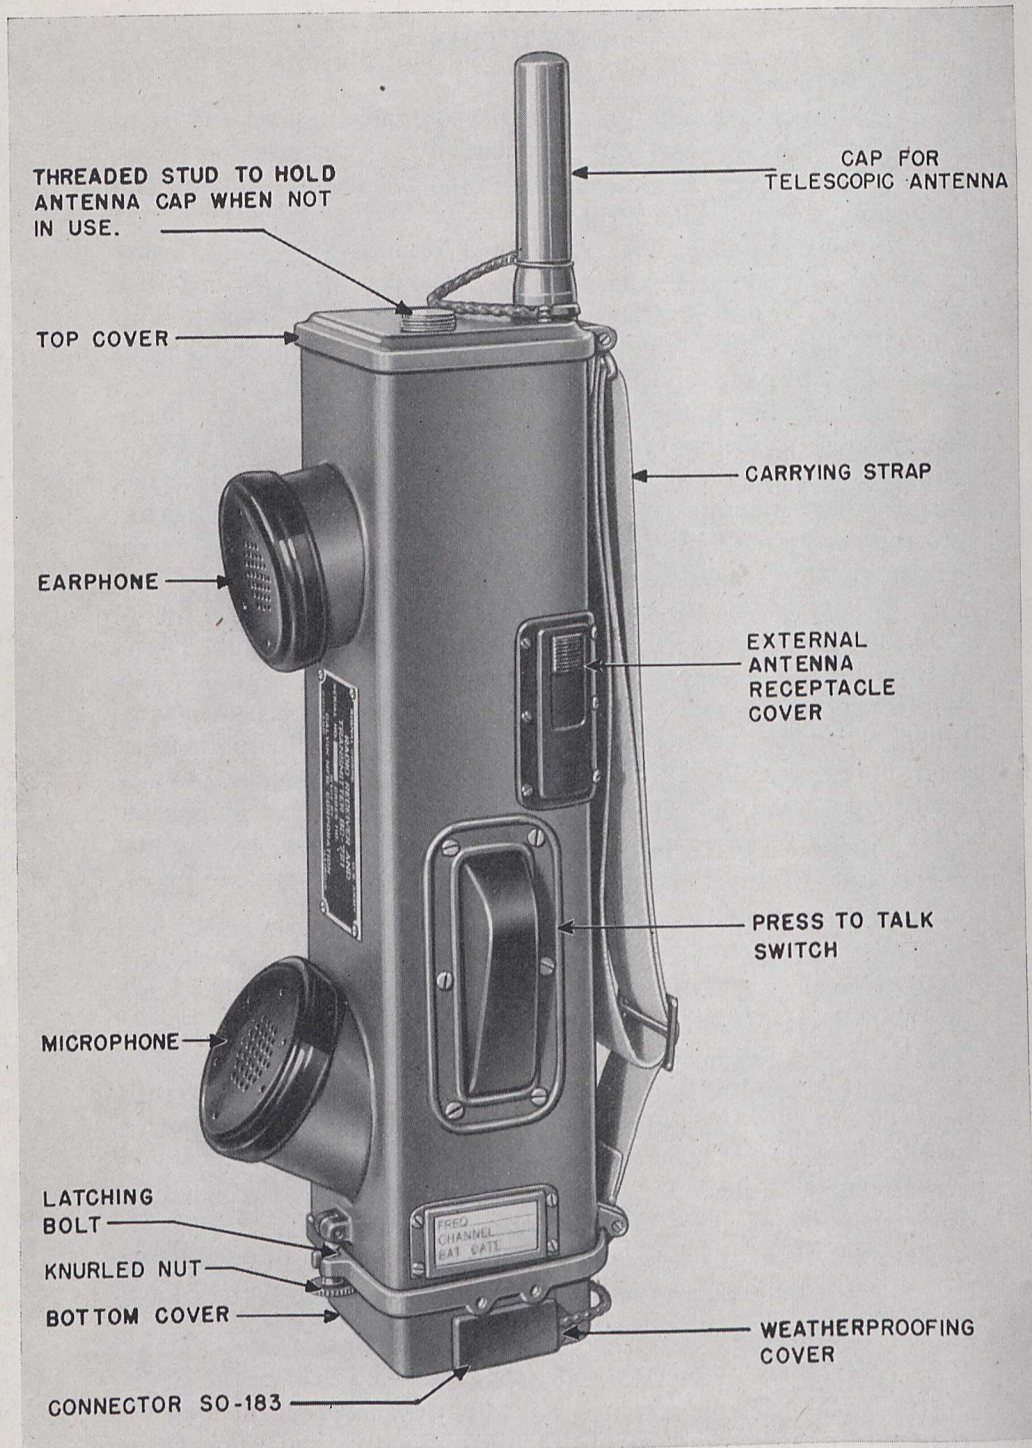
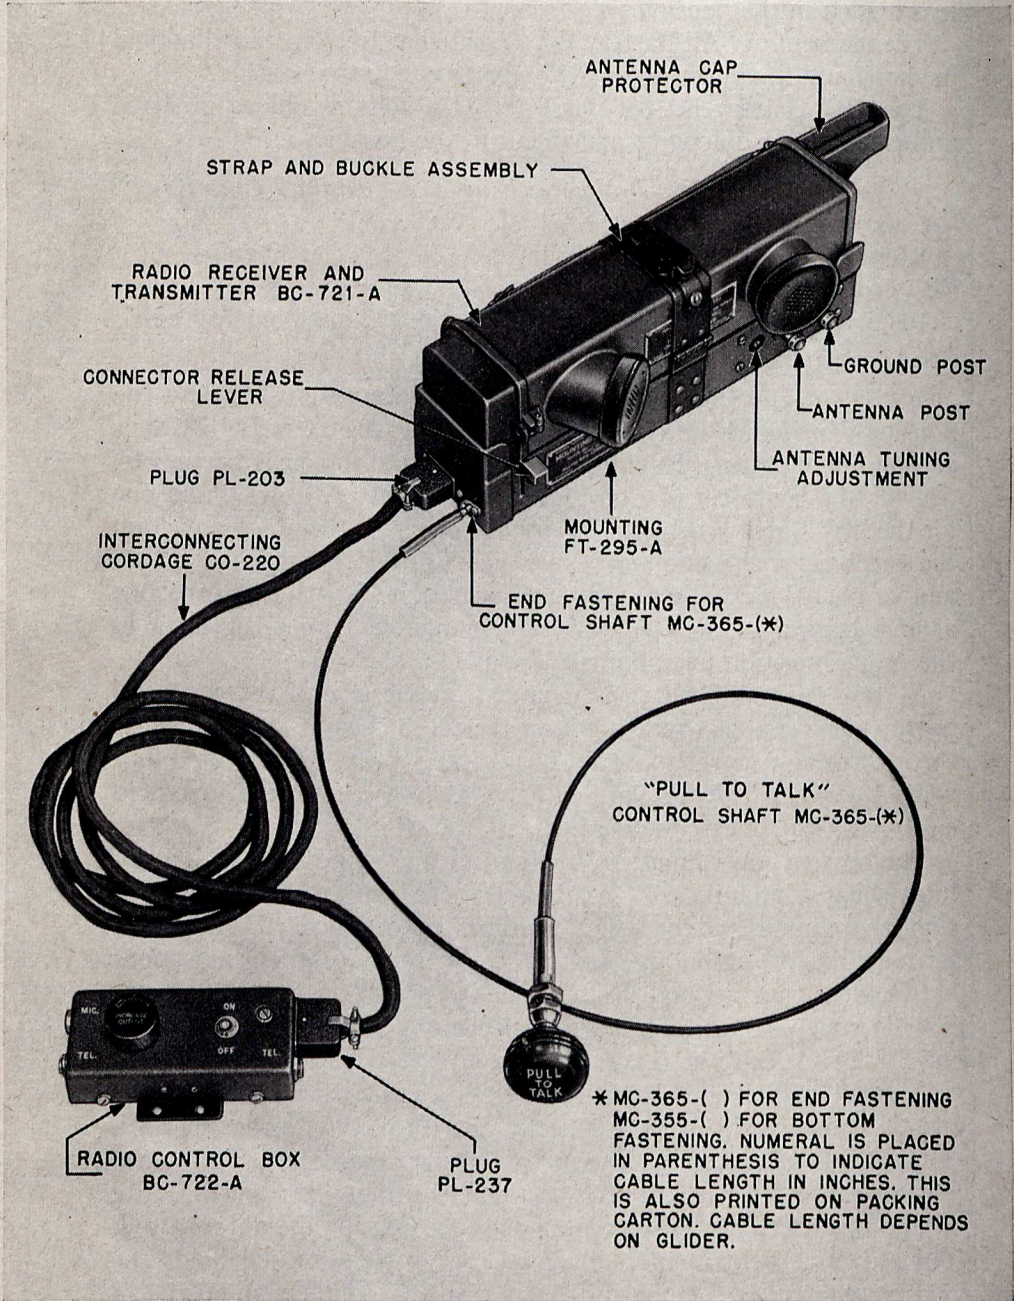
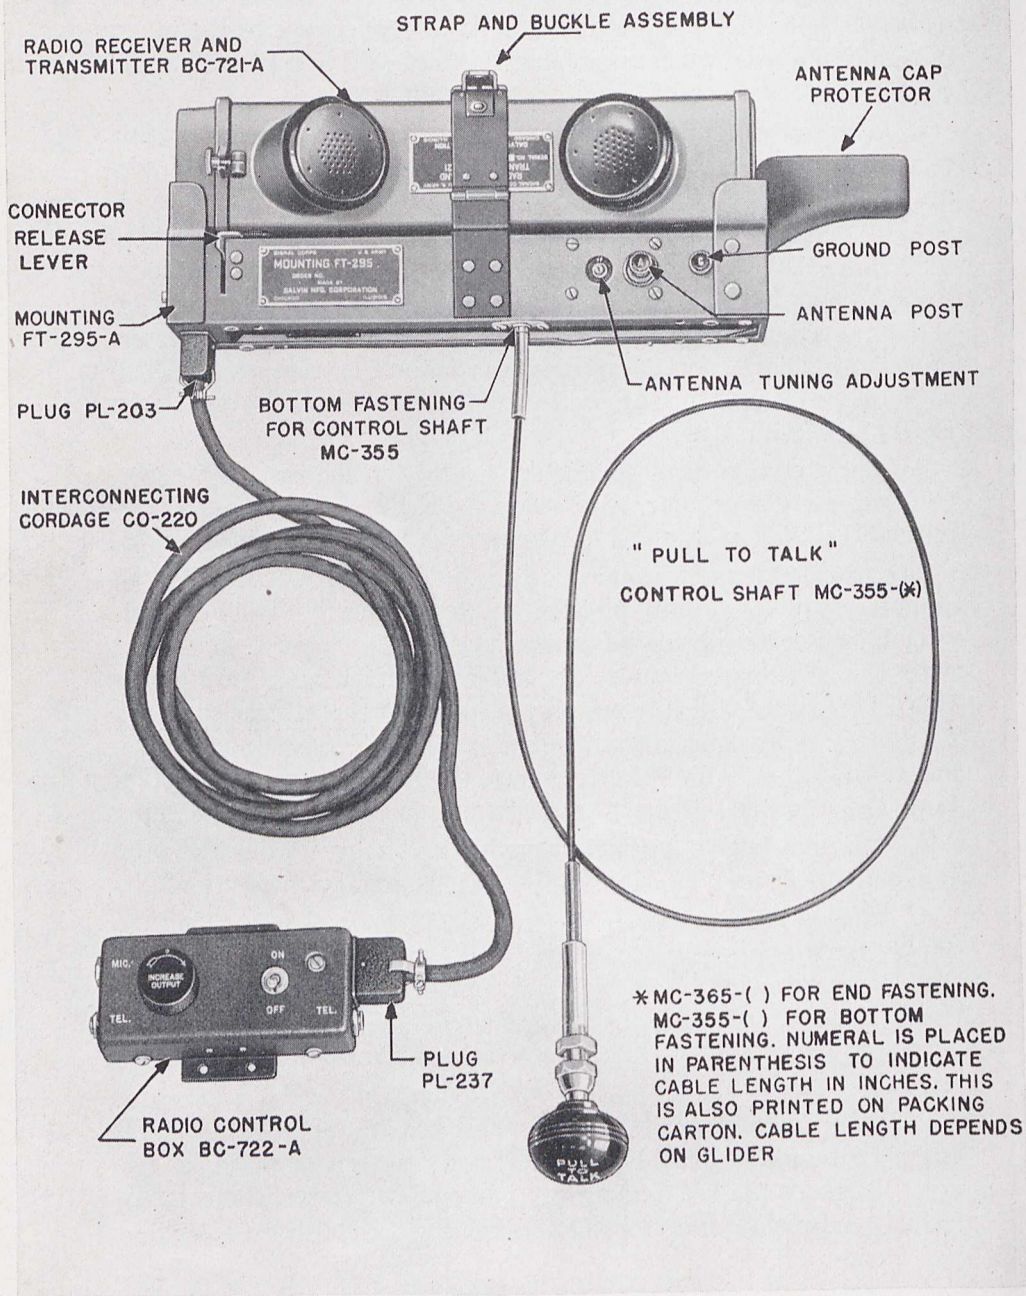

FIG. 2. RADIO RECEIVER AND TRANSMITTER BC-721-A
FIG. 3. RADIO SET SCR-585-A USING END FASTENING CONTROL SHAFT MC-365
FIG. 4. RADIO SET SCR-585-A USING BOTTOM FASTENING CONTROL SHAFT MC-355
d. By unbuckling the strap and buckle assembly, shown in Fig. 3, and pushing the connector release lever, Radio Receiver and Transmitter BC-721-A is released and becomes a "press-to-talk" self-contained portable radio telephone with attached earphone and microphone resembling an ordinary hand telephone set. Radio Receiver and Transmitter BC-721-A when operated in this manner is automatically turned on when the self-contained telescopic antenna is fully extended. No volume control is used with the radio receiver and transmitter when it is used as a portable radio telephone. See Fig. 2.
A “press-to-talk” switch is mounted on the side of the case, and operates the change-over switch on the radio chassis which converts the set from a receiver to a transmitter. This switch is so located that when the set is held in the left hand, the switch may be operated easily with the fingertips. See Fig. 2.
d. "Pull-to-Talk" Control Shafts MC-355 or MC-365.—This assembly consists of a flexible housing and Bowdin wire, together with the necessary mounting fittings and control knob. It is fastened at either the end or bottom of Mounting FT-295-A and actuates the Send-Receive switch in Radio Receiver and Transmitter BC-721-A. See Figs. 3 and 4.
e. Radio Control Box BC-722-A.—This box contains the ON-OFF power switch, INCREASE OUTPUT volume control (receiver volume), jacks for the headphones and microphone, a microphone transformer, and male Connector SO-217. See Figs. 4 and 8.
c. The Mounting FT-295-A is shipped from the factory with the female connector mounted either in the end or bottom of the mounting, as ordered. See Fig. 3 and Fig. 4. When this connector is fastened in the bottom of the mounting, the opening provided for end fastening is covered with a plate held in place by two screws. To change to end mounting, remove the plate and the screws holding the connector on the bottom of the base. Move the connector into position on the end of the base, using the two original mounting screws.
a. Slide the external antenna receptacle cover down, exposing the antenna receptacle. See Fig. 2.
b. Be sure that the telescopic antenna is pushed down into position and the antenna cap is in place, as shown in Fig. 2.
d. Place Radio Receiver and Transmitter BC-721-A on Mounting FT-295-A, as shown in Fig. 3, and fasten the strap and buckle assembly. Care should be used when placing the unit on Mounting FT-295-A to keep the antenna cap chain clear of the antenna cap protector casting. This may be done by keeping the chain on the carrying strap side of the antenna guard.
e. Connect the glider antenna to the antenna binding post marked "A" on the Mounting FT-295-A. See Fig. 3.
Control Shaft MC-365 is for end fastening to Mounting FT-295-A. Control Shaft MC-355 is for bottom fastening to Mounting FT-295-A. See Figs. 3 and 4.
14. ADJUSTMENT OF THE ANTENNA TUNING CAPACITOR.—Place an 0-100 r-f milliampere meter (See Note) in series with the antenna external lead at the "A" binding post on Mounting FT-295-A, keeping all connecting wires as short as possible. Snap on the ON-OFF switch on Radio Control Box BC-722-A to the "ON" position and pull out the "pull-to-talk" knob. Adjust the capacitor located near the antenna binding post for maximum deflection on the meter, using an insulated screw driver. With a $\frac{5}{16}$ " wrench tighten the cap nut to lock the capacitor securely in place. See Figs. 4 and 8. The "pull-to-talk" knob should not be held out longer than is necessary to adjust the antenna tuning capacitor, as this shortens the life of the batteries. Disconnect the r-f meter and replace the antenna lead on binding post "A" on Mounting FT-295-A. The radio set is now ready for use in the glider. NOTE: A 0-50 ma r-f meter will be satisfactory for antenna capacitor adjustments in most cases. *If no other meters are available, the 50 ma r-f meter supplied as part of Test Equipment IE-17-B can be used for this adjustment. The range can be extended to 100 ma by shunting the meter with a 5 ohm non-inductive resistor.*